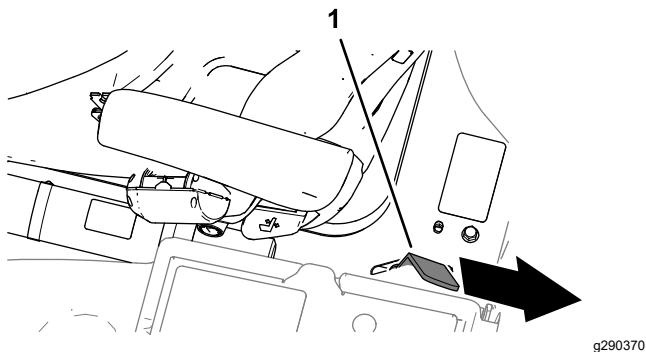

Figure 44
3. Fully lower the platform and move the platform-latch handle toward the rear of the machine until the latch hooks fully engage the locking bar (Figure 44).